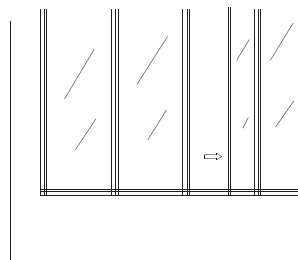

Fig 5
5. Open the window where the exhaust air duct, window kit, and accessories will be installed in Fig 5